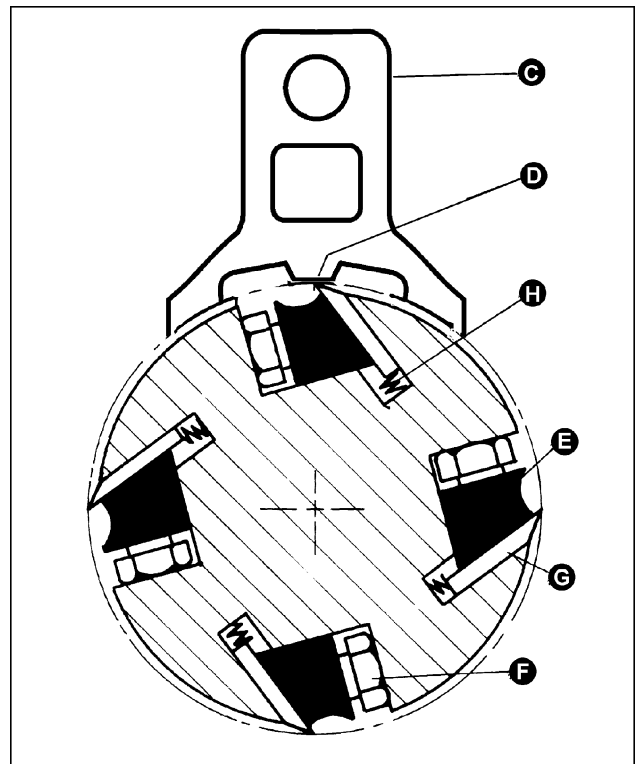
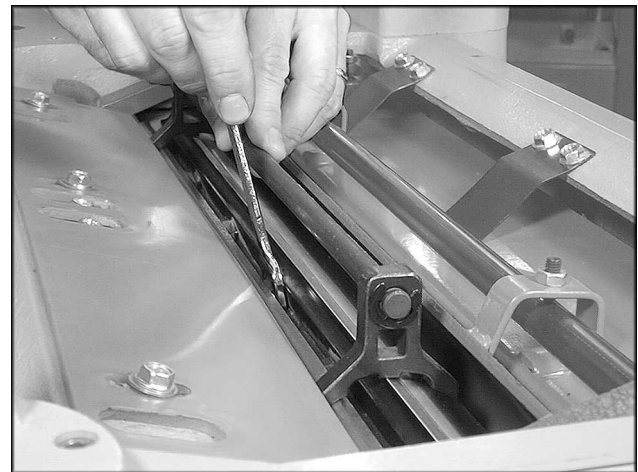

Fig. 18
Fig. 19
3. To check and adjust knives, use the provided knife setting gauge and check all four knives. Knives should just contact the bottom of the center protrusion (D, Fig. 18) of the knife gauge. Make sure the feet of the knife gauge sit solidly upon the cutterhead, and that its shaft is parallel to the cutterhead (Fig. 19).
4. If an adjustment to one or more of the knives is necessary, slightly loosen the knife gib (E, Fig. 18) by turning the six screws (F, Fig. 18) into the gib (i.e. clockwise, when facing the screw heads) with a 12mm hex wrench. Turn the screws just enough to relieve stress in the cutterhead without disturbing the setting of the knives. Do this for all four knives at the same time.
5. With the knife setting gauge (C, Fig. 18) in place over a knife (G, Fig. 18), continue to loosen the screws (F, Fig. 18) until the springs (H, Fig. 18) begin raising the knife. When knife comes in contact with the center protrusion of the gauge, snug the gib by lightly backing out the six screws (F, Fig. 18) against the slot (i.e. counter-clockwise).
7. After all knives are set with screws just snug, back out and tighten the six screws (F, Fig. 18) against the slot starting with the end screws first, then the center screws, until the knife is securely held in the cutterhead. Tighten the remaining three knives in the same manner.
3. To remove knife, loosen the gib (E, Fig. 18) by turning the six gib screws clockwise. Remove gib, knife and springs.
8. Place knife setting gauge (Fig. 19) over knife.